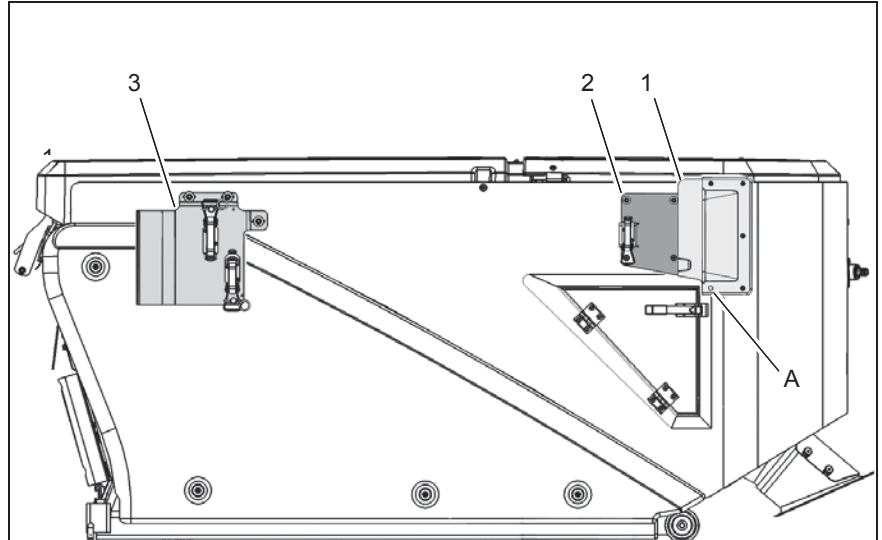

Fig.3
1. Attach the cover (Fig. 3/1) to the right side holder (Fig. 3/2) using five flanged button head bolts M6x20, nuts and washers.
Note Attach the flanged button head bolt (Fig. 3/A) from below and place the protective cap on the nut.
2. Attach the right side holder (Fig. 3/2) to the dirt hopper using three flanged button head bolts M8x25, nuts and washers.
3. Attach the left side holder (Fig. 3/3) to the dirt hopper using three flanged button head bolts M8x16, nuts and washers.